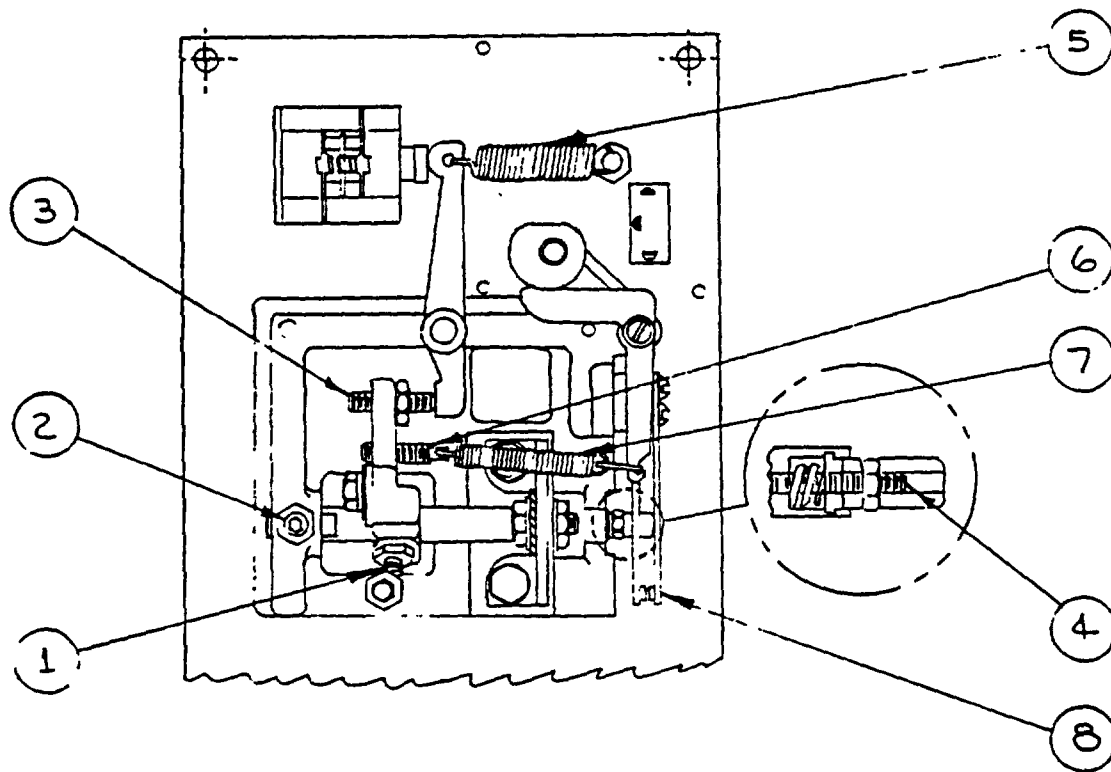

FIG. 4
- Verify the proper setting of the slide rod stop screw (Item 2, Fig. 4). It is adjusted to maintain 1/4 turn clearance between the end of the stop screw and the milled flat on the slide rod. The movable jaw must move freely with both tilt adjustments bearing on the jaw.
1. Loosen the lock screw (Item 1, Fig. 4) that holds the movable jaw to the slide rod.
3. Push the slide rod toward the fixed jaw until the shoulder of its milled flat contacts the slide rod stop screw (Item 2, Fig. 4).
4. Tighten the lock screw (Item 1, Fig. 4) and lock the jam nut on it.
3. Turn the adjustment screw (Item 4, Fig. 4) as required to just break the circuit with .140" gap. (CW reduces the gap; CCW increases the gap.)
The upset force shall be from 10 to 12 lbs. when measured at the movable jaw with the upset force selector set for the narrowest width band. The approximate locations of the upset force adjustment screw (Item 6, Fig. 4) is with the back end of the screw flush with the cast jaw surface. The final adjustment is made in the following manner:
1. Disconnect the weld lever return spring (Item 5, Fig. 4.)
7. If the spring scale reading at this point does not fall in the required range (10 to 12 lbs.) the upset force adjustment screw must be reset, (Item 6, Fig. 4.)
8. To re-set the screw, disconnect the jaw upset spring (Item 7, Fig. 4) and turn the screw, as required.
With the weld lever in the anneal position, (as located by the detent of the drag spring) and the upset force selector in its widest position, turn the jaw gap adjustment screw (item 3, Fig. 4) to obtain 15/32" jaw gap. Lock the adjustment in place.